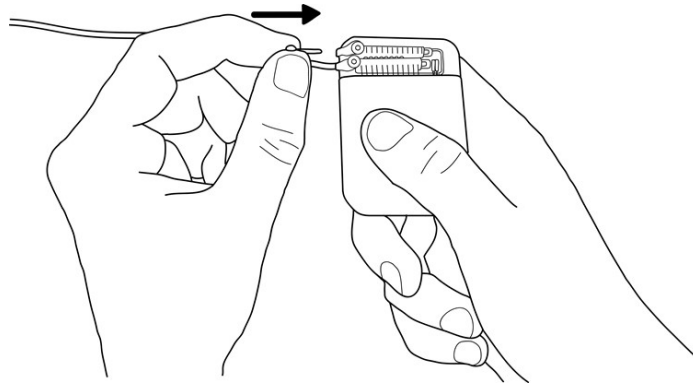

Figure 6.3: Inserting the port plug.
7. If you are using only one lead, place the CLS port plug in the unused port to prevent moisture ingress (refer to Figure 6.3).